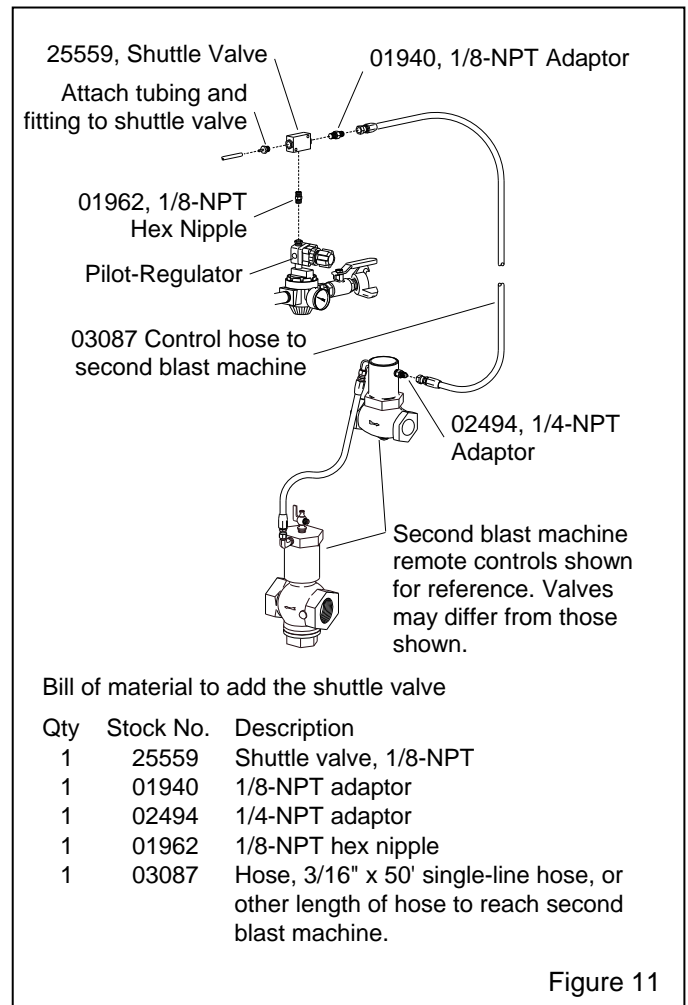

Figure 11
2.4.4.4 Apply pipe thread sealant on all male pipe threads and install shuttle valve and fittings as shown in Figure 11.
3.3.3.1 Make sure the shuttle valve is installed on the air supply side of the water pump pressure regulator, as shown in Figure 11. Refer to Section 2.4.4.